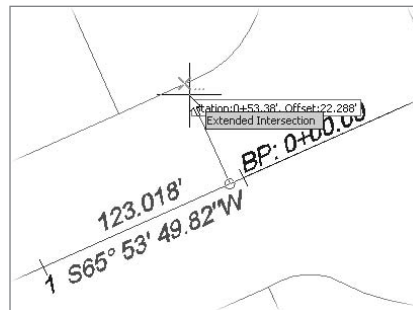

Figure 8.22
6. Use an intersection osnap, but pick the line on the front of lot 52 as shown in Figure 8.22. Note the ellipsis on the glyph—this indicates an extended intersection, allowing you to pick an imaginary intersection instead of a real one.